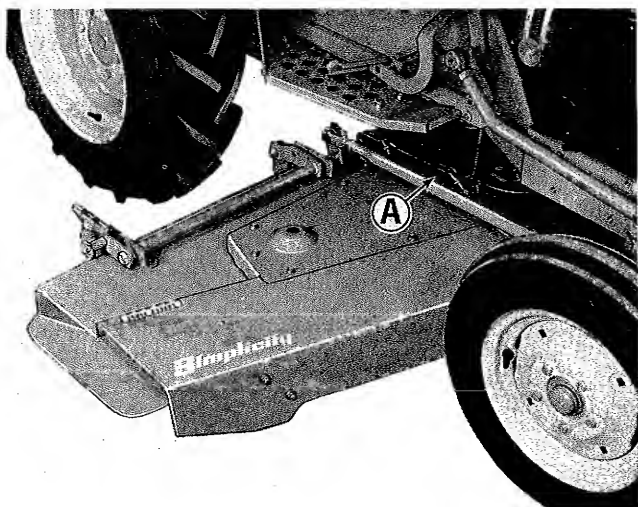

Figure 13. The 60'' mid-mounted mower attached using the longer right lift cable used with the sickle bar.
13. See figure 13. If the tractor is to be used with the 60" mid-mounted mower, the mower can be installed as shown. The brackets and pulley (A) furnished with the sickle bar are installed on the mower to compensate for the extra length cable used with the sickle bar mower. If the tractor is to be used without the mid-mounted mower complete steps 14 and 15.